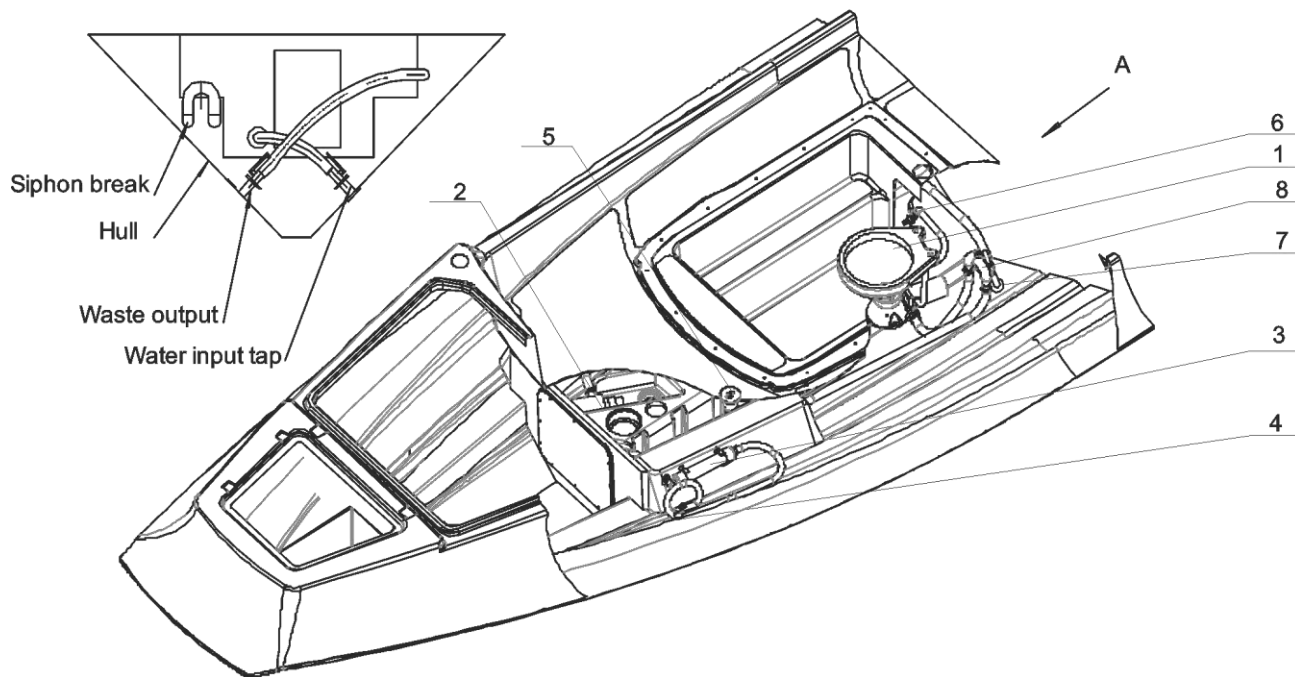

Fig. 40. Waste water system.
***Waste water system of a boat*** (see fig. 40 on the previous page):
Before using a toilet, you should open water input tap (fig. 40, pos. 6). If you in offshore where the discharge of biodegradable wastewater in permitted, open overboard discharge valve. (fig. 40, pos. 7). Both taps are located in the compartment behind the toilet (fig. 39).
The filling sensor (fig. 39) of wastewater tank (fig. 40, pos. 2) is located near the toilet control panel. The discharge of wastewater tank can be done by sewage truck at a port. Connect the fitting of the receiving hose of the sewage truck with pump-out deck fitting (fig. 40, pos. 5) located on the deck, next to the steering console to do so.